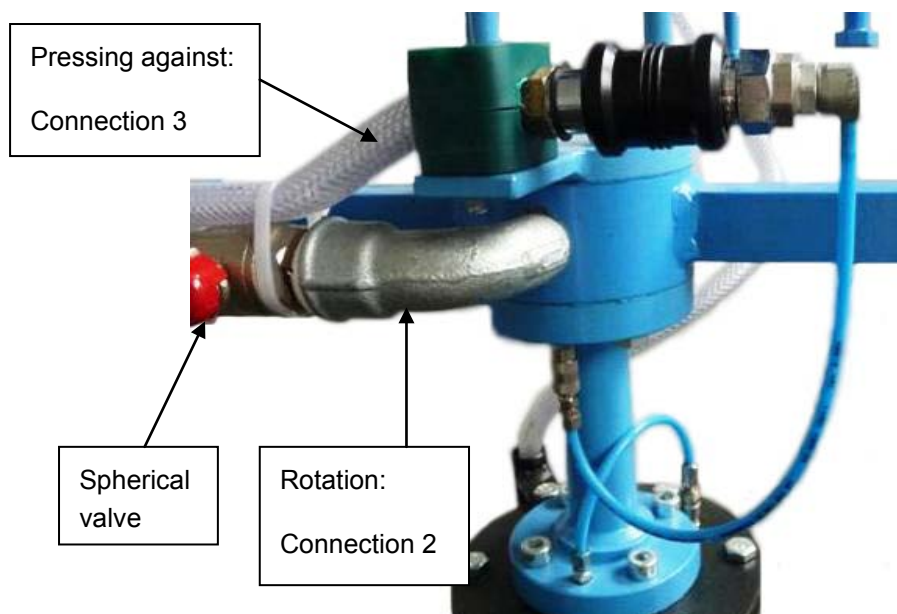

Fig. 7 – Air-connections: Rotation and pressing-against
1. actuate the ball valve for rotation of honing head (Fig. 7)
2. actuate simultaneously the slider for pressing against and lifting device LOWERING (D)
3. when reaching the lower reversal point, actuate lifting device LIFTING (U)